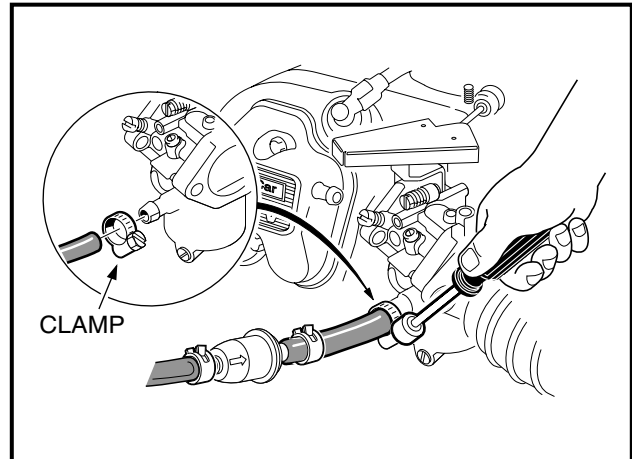

Figure 16b-111 Connect Fuel Line
31. Connect air intake hose to carburetor and secure hose clamp (Figure 16b-113, Page 16b-47).